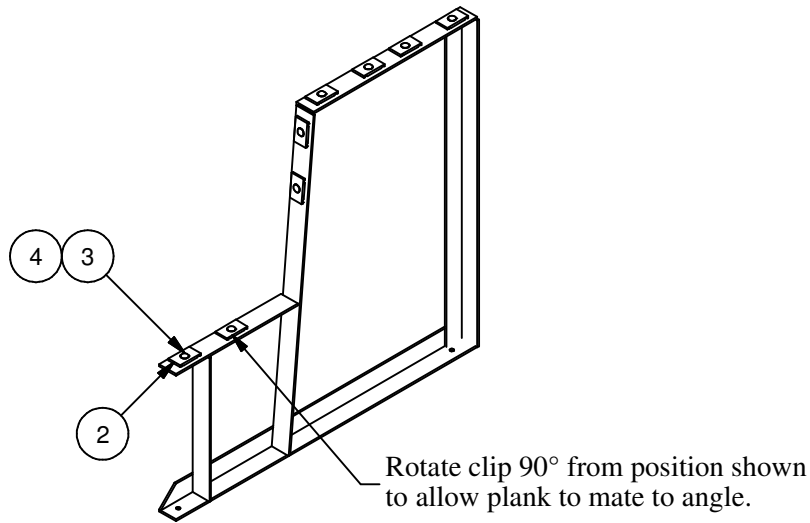

Figure 2
2. Pre-assemble the frames by installing the mounting clips on the frame using the 5/16" x 1" carriage bolt and 5/16" whizlock nut. Only start the nuts a few threads to allow for the clips to be lifted and rotated into the channel of the bleacher plank. These mounting clips, bolts, and nuts are required at every frame position. See Figure 2.